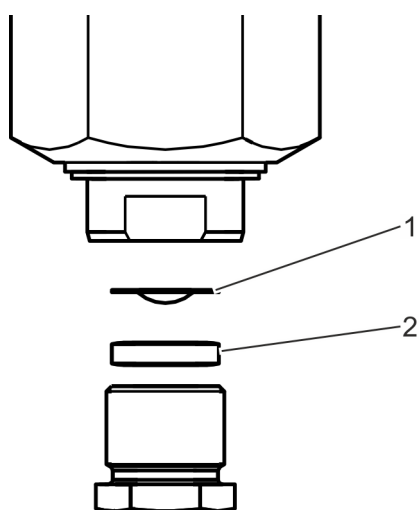

Fig. 21: Replacing the bursting disc (an intact bursting disc is shown)
- 13.** ➤ Remove the pressure ring (Fig. 21/2) and the defective bursting disc (Fig. 21/1).